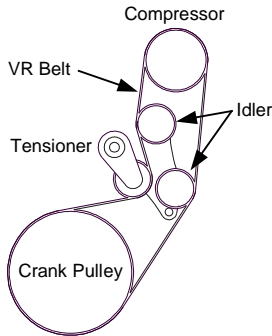

Figure 5.6
- ☐ Install the VR belt.(Figure 5.6)